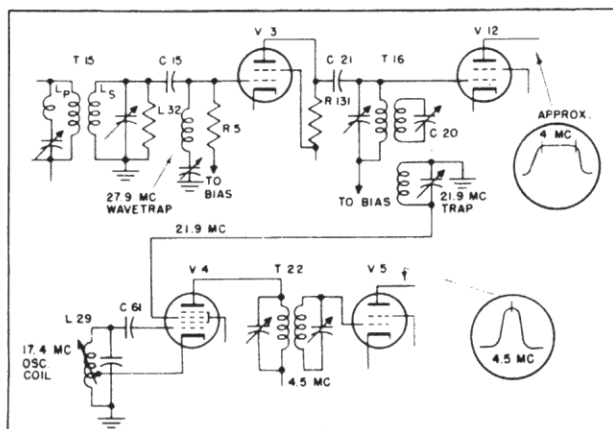

Fig. 4. Video and Audio I-F Amplifier
**2. VIDEO AND AUDIO I-F AMPLIFIERS (SEE FIGURE 4)** The video i-f amplifier consists of a three-stage band-pass amplifier using three Type 6AC7 tubes. The transformers, T15, T17, and T18, are overcoupled and then loaded with resistance to give adequate (approx 4 mc) band-pass frequency characteristic. A series tuned trap consisting of L32, C127 and C126 tuned to 27.9 mc is connected in the 1st i-f amplifier grid circuit to provide rejection of the adjacent channel sound. T16 is a broad band, single tuned inductance with two 21.9 mc traps coupled to it, which are used to provide rejection of the channel audio. A series tuned 21.9 mc trap is used at the diode stage (T18).